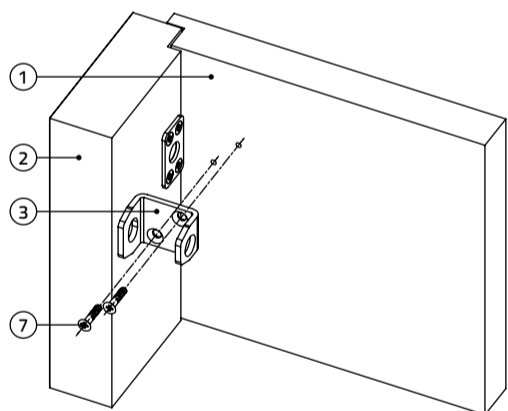

Figure 5
If you fix the base (3) to the door (gate) leaf (1) by means of ϕ 6 mm screws (7), place the base (3) to the door (gate) leaf (1) and use two ϕ 6 mm screws (7) to fasten it - see Figure 5 herein. The ϕ 6 mm screws (7) are not included in the delivery, their length should correspond to the door (gate) leaf (1) thickness. If you fix the base (3) to the door (gate) leaf (1) by means of M8 bolts (8), place the base (3) to the door (gate) leaf (1) and insert the M8 bolts (8) through the base (3) and the door (gate) leaf (1). Fit the washers (5) to the bolts protruding from the interior side and screw down the nuts M8 (9) - see Figure 5 in the Installation instructions for one-leaf gate (gate door) with side metal posts. If necessary, shorten the M8 bolts (8). The base (3) may also be welded to the metal door (gate) leaf (1).